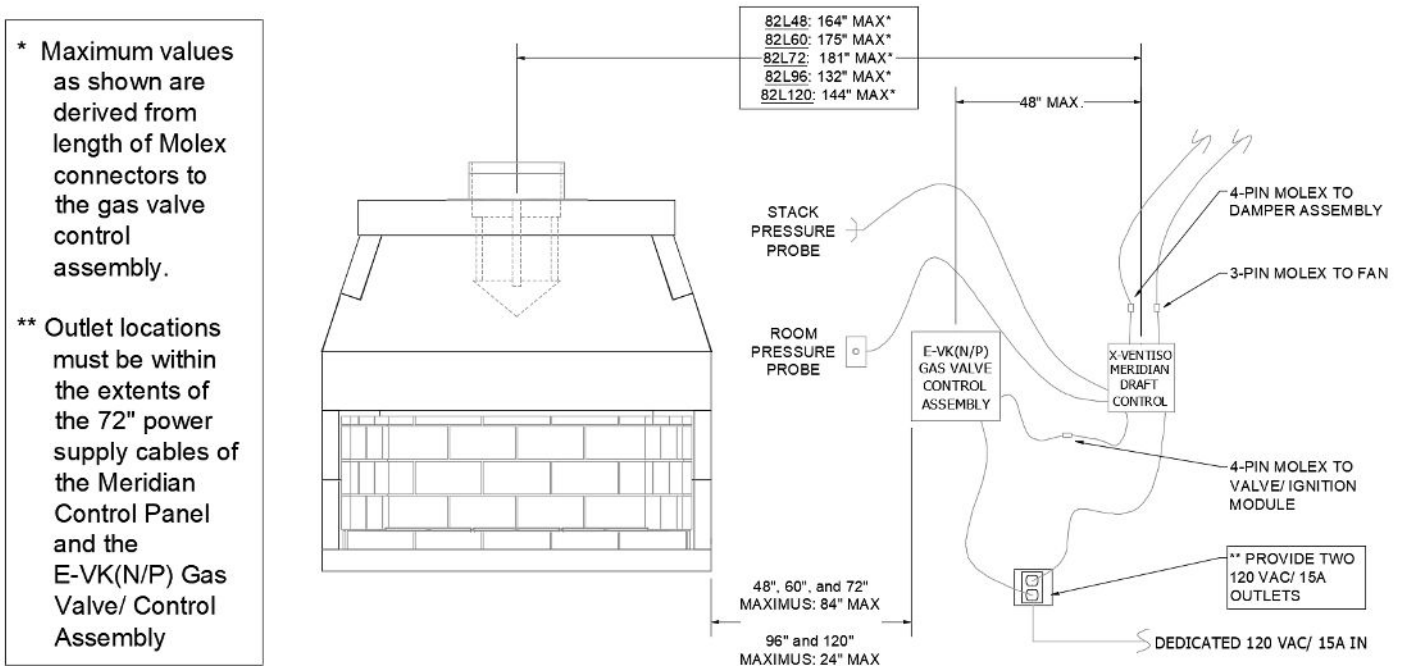

FIGURE 23
- The location of the Meridian Control Panel is dependent upon the fireplace model and must be within the values shown in **(Figure 23)**. The distances shown are as measured horizontally from the fireplace flue-outlet.
NOTE: the Isoflames Linear Burner’s gas valve control box location is also dependent upon the fireplace model/ burner size. It must be located within 84” of the sidewall of the firebox for the 48”, 60”, and 72” Maximus Linear and within 24” for the 96” and 120” Maximus Linear **(Figure 23)**.
- Two 120 VAC / 15A outlets must be provided at the chosen location on a dedicated circuit; one for the Meridian Control Panel, the other for the Gas Valve Control Box . These outlets must be within the extent of the 72” power supply cables of the Meridian Control Panel and the E-VK(N/P) Gas Valve Control assembly **(Figure 23)**.
- 3) Connect the top port of the Meridian Control Panel's pressure ports with the supplied tubing to the "Stack Pressure" vent probe (**Figure 23, 24 & 26**). This will be connected to the chimney at a location 12" above the anchor plate.
- 4) Connect the lower port of the Meridian Control Panel's pressure ports with the supplied tubing to the "Room Pressure" probe/cover plate (**Figure 23, 25 & 26**). The other end will be connected in a suitable location in the room in which the fireplace is installed. This location must be in the same pressure zone as the fireplace opening, and within reach of the supplied tubing's connection to the X-VENTISO Meridian Draft Control Panel. Do not locate sensor in close proximity to exterior doors, opening windows, supply air diffusers, or other know air disturbances. The tubing measures 20ft.